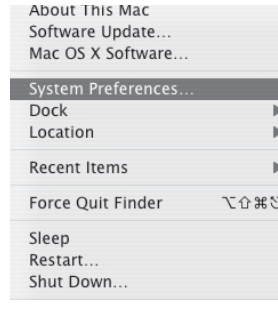

Figure 1
2. To select the Q1U as the computers audio input, open the System Preferences from the dock or the main Apple Menu (figure 1).